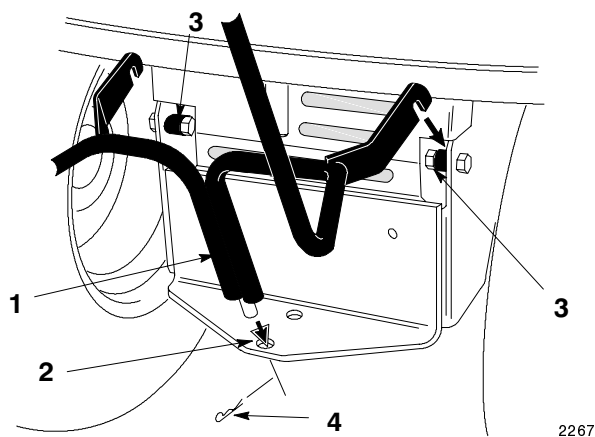

Figure 23
- Slide the bottom of the quick-attach bracket down into the hole in the hitch and hook the notches onto the spacers located inside the tractor frame (Fig. 23).
- Slide the hair pin cotter through the hole at the bottom of the quick-attach bracket (Fig. 23).